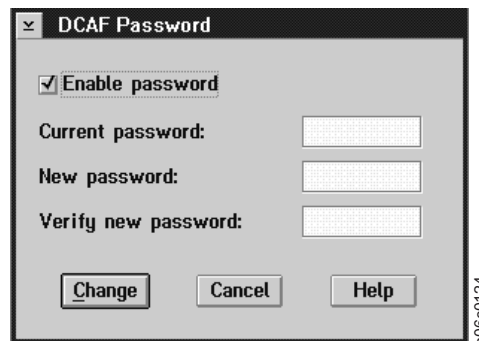

Figure 242. DCAF Password
3. In the DCAF Password window (Figure 242), select the **Enable password** check box.